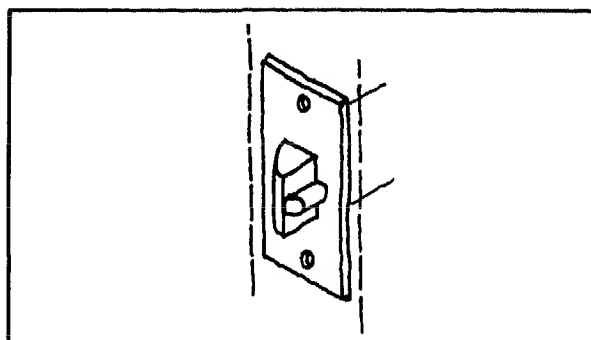

Fig. 12 Deadlatch.
**Deadlatch:** In a deadlatch, the latch is positively held in the projected position by an automatic mechanism which is depressed against the strike plate (see Fig. 12).